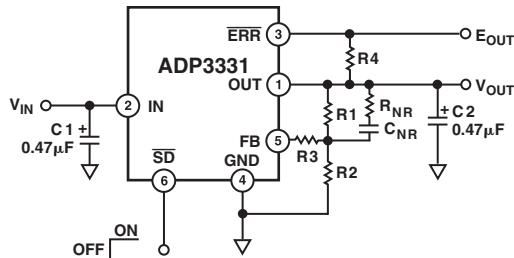

Figure 3. Noise Reduction Circuit
**Noise Reduction Capacitor:** A noise reduction capacitor can be used to reduce the output noise by 6 dB to 10 dB. This capacitor limits the noise gain when connected between the feedback pin (FB) and the output pin (OUT), as shown in Figure 3. Low leakage capacitors in the 10 pF to 500 pF range provide the best performance. Since FB is internally connected to a high impedance node, any connection to this node should be carefully done to avoid noise pickup from external sources. The pad connected to this pin should be as small as possible; long PC board traces are not recommended. When adding a noise reduction capacitor, use the following guidelines:
The ADP3331 has an adjustable output voltage that can be set by an external resistor divider. The output voltage will be divided by R1 and R2, and then fed back to the FB pin. Refer to Figure 3.
| Changes to Figure 3 .....               | 7         |